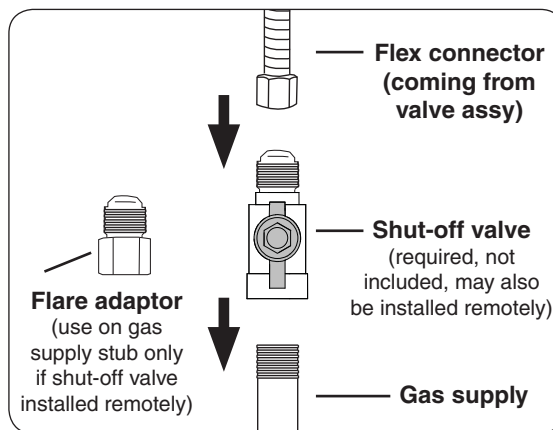

Fig. 12-1 Connecting to the gas line
**Note:** **A shut-off valve (not included) in the gas line is required.** It can be installed remotely (within 6 feet of unit) or at the end of the gas supply stub. Use a pipe joint compound resistant to all gasses on all male fittings except flare fittings. See Fig. 12-1 for an example.
- Connect the flex connector (on rear of valve assembly) to the shut-off valve (see Fig. 12-1). Tighten securely.
- Install the supplied flare adaptor to the gas supply using a pipe joint compound resistant to all gasses (see Fig. 12-1). Tighten securely.
- Connect the flex connector (on rear of valve assembly) to the flare adaptor (see Fig. 12-1). Tighten securely.